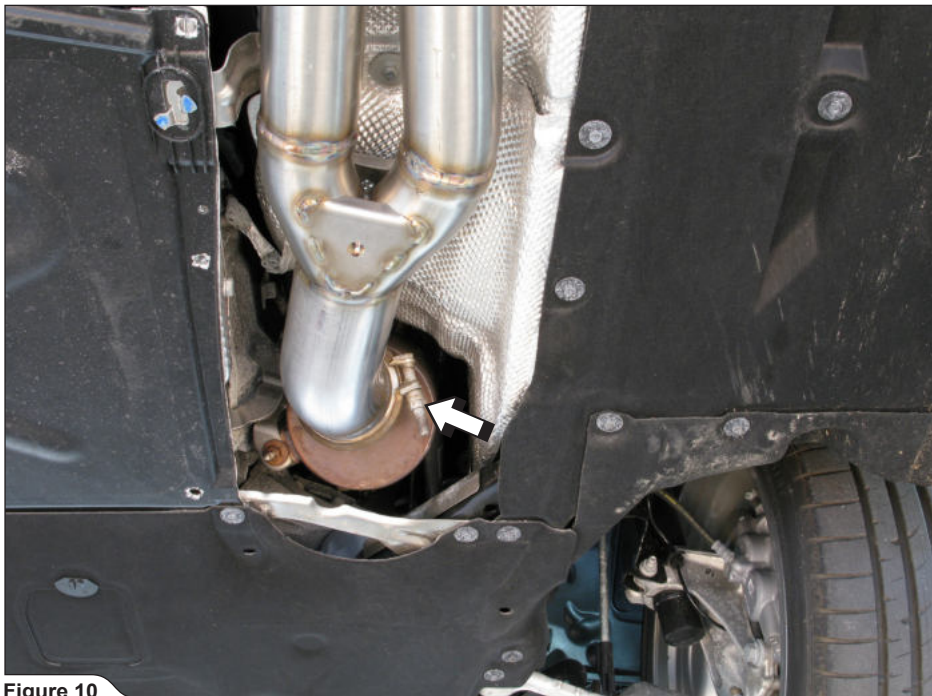

Figure 10
- Put the link pipe onto the vehicle, hand tighten the stock clamp and attach the bracket to the chassis, using nut from Akrapovič installation kit (**Figure 10, 11**).